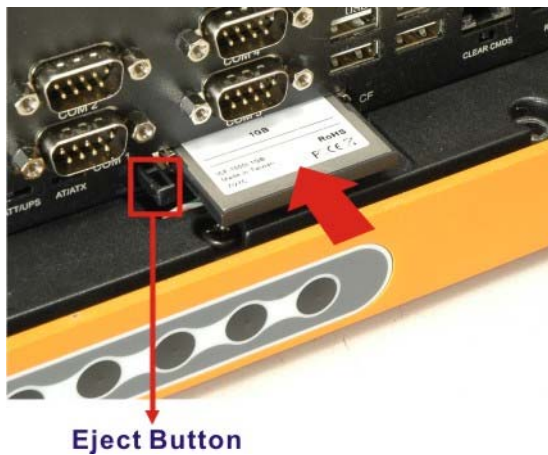

Figure 4-1: CF Card Installation
Step 2: **Install the CF Card.** Correctly align the CF card with the socket and insert the CF card into the socket. See **Figure 4-1**.